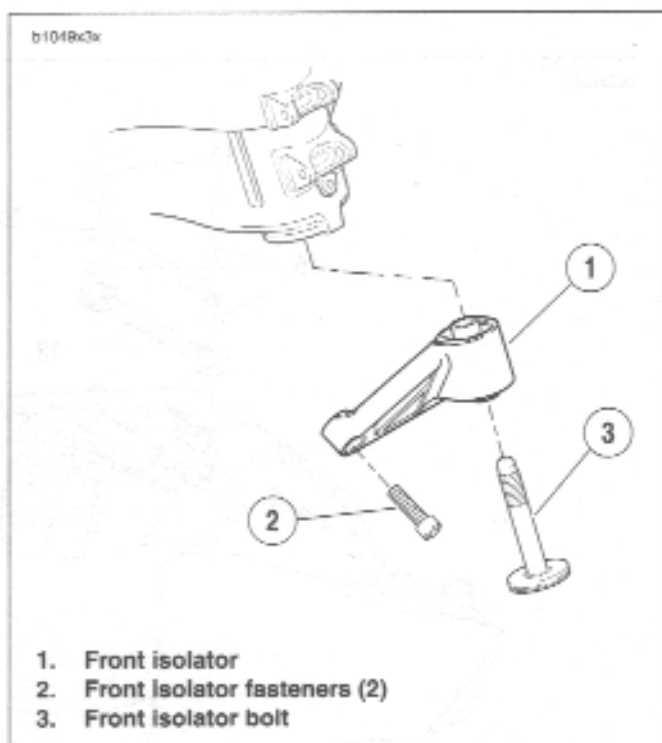

Figure 3-46. Front Isolator
10. See Figure 3-46. Insert front isolator bolt (3) through front isolator (1) and loosely thread into frame. Do not tighten at this point.
11. See Figure 3-46. Install isolator mounting fasteners (2) and tighten to 49-51 ft-lbs (66-69 Nm).